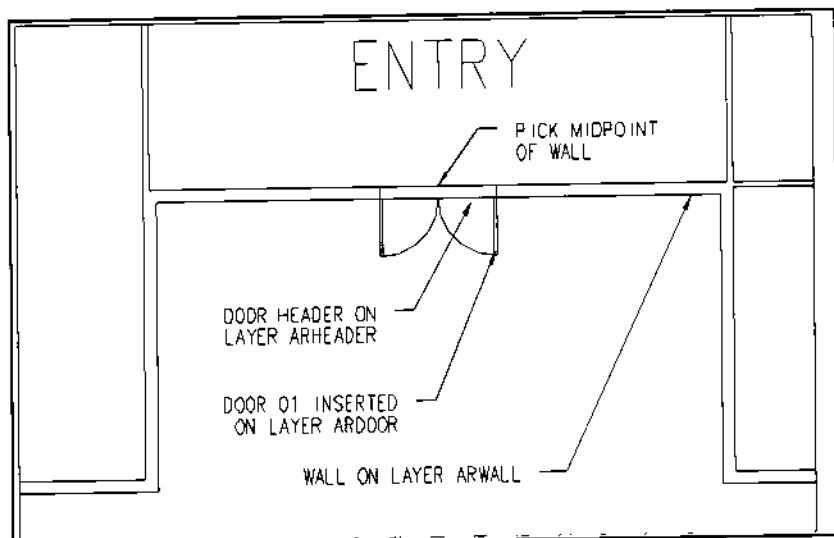

Figure 12.
1. Zoom into the Entry area shown in Figure 12.
- > Pick insertion point (NEArest): **MID** of [select midpoint of wall as shown in Figure 12]